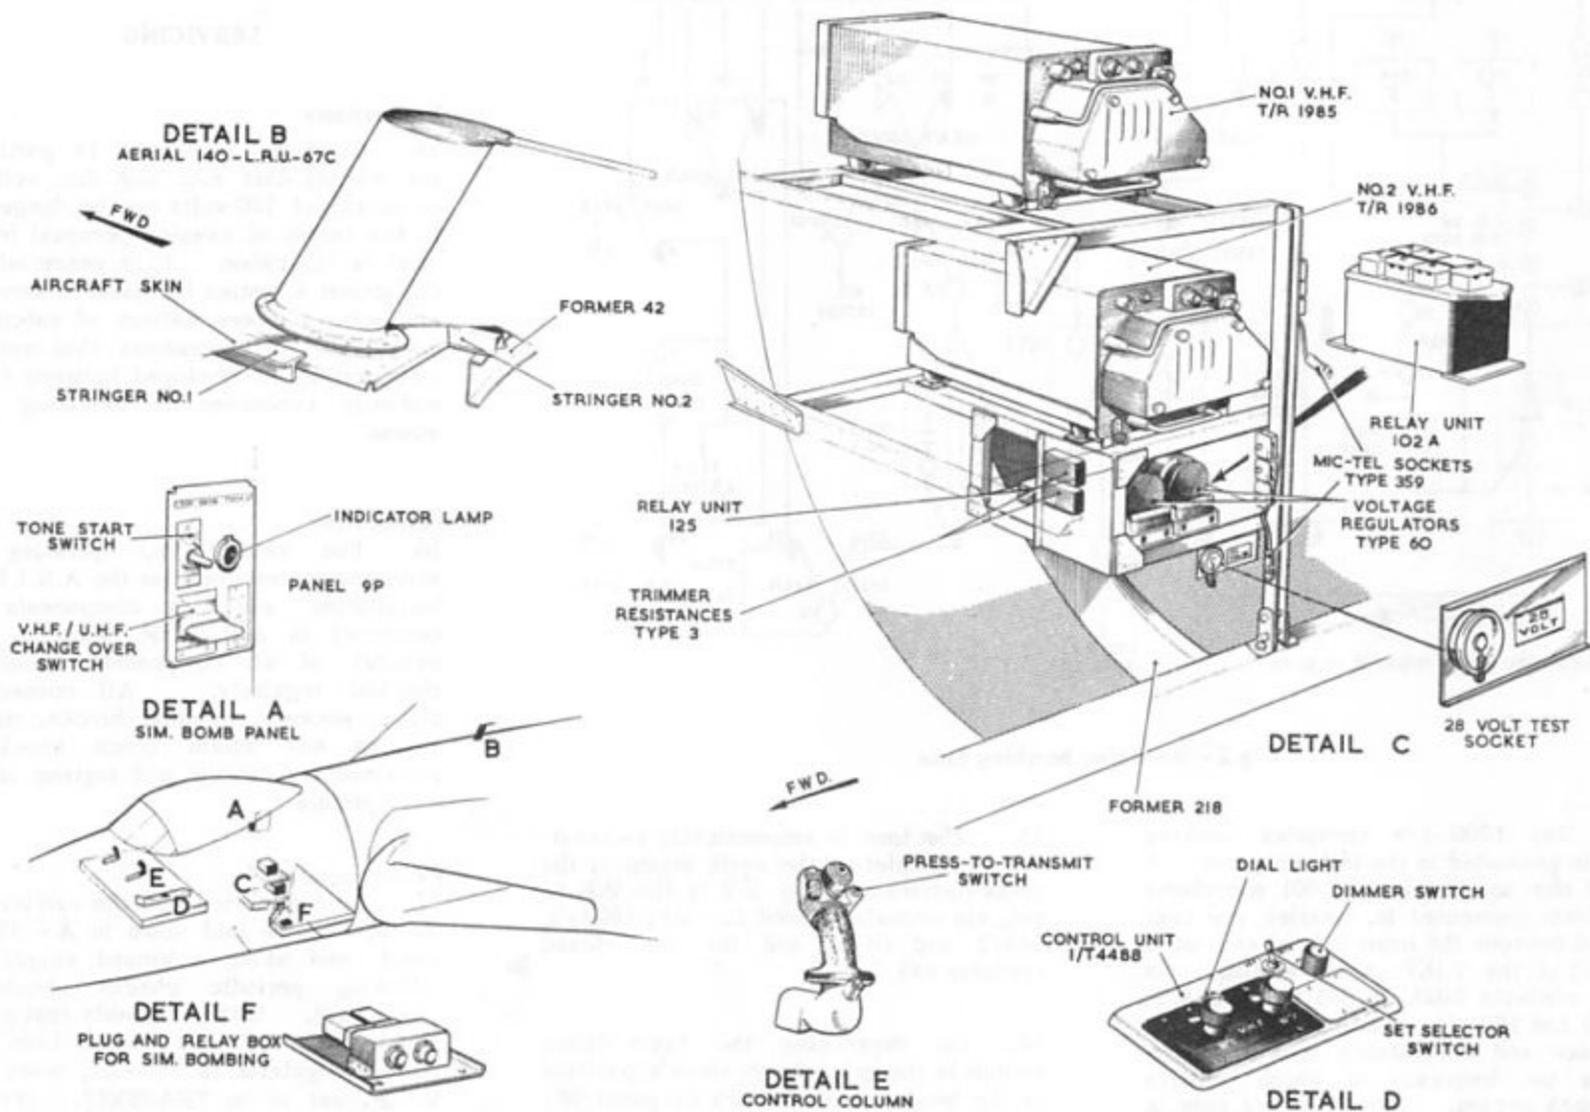

Fig. 1 Component location
Component location ... ..	Fig. 1
receivers (1985 and 1986), operating on C.W. and M.C.W. on ten spot crystal-controlled frequencies; covering a range band of 100 Mc/s to 156 Mc/s with its associated control unit, voltage regulators, relays, external trimmer resistances and aerial. A location illustration of the major components is provided in fig.1,
8. The vent sleeve aerial, 140-L.R.U. - 67C, is of shark fin design, with a short rod projecting horizontally at the rear of the blade; it is mounted on the aircraft top skin (fig.1).